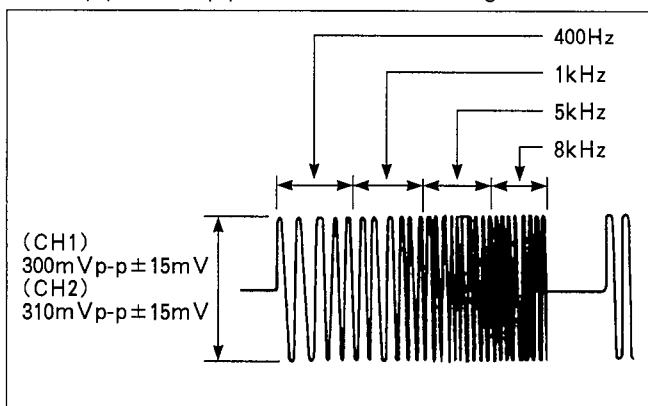

Figure E49
1. Connect a scope to TP40005 (CH1) and TP40007 (CH2), and adjust VR40003 (CH1) and VR40008 (CH2) so that the levels become 300mVp-p  $\pm$  15mVp-p (CH1) and 310mVp-p  $\pm$  15mVp-p (CH2) as shown in Figure E49.